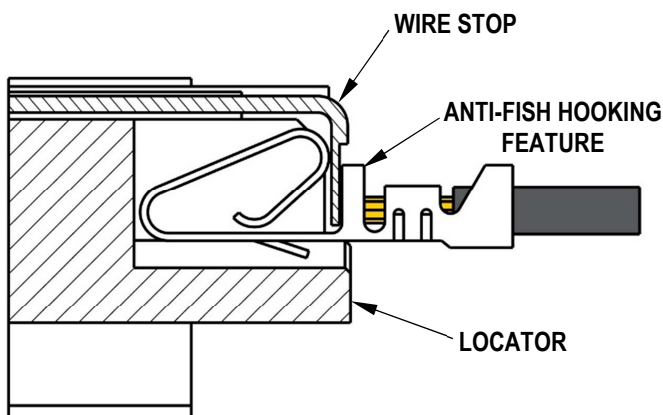

Figure 4
****** For terminal series 8818 (using the gray hand tool locator), the wire stop will fall between the contact and the anti-fish hooking feature. See Figure 4.